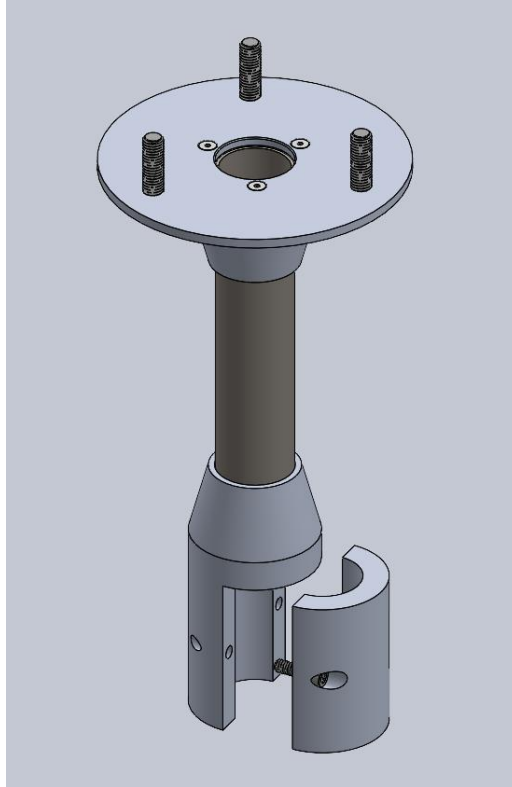
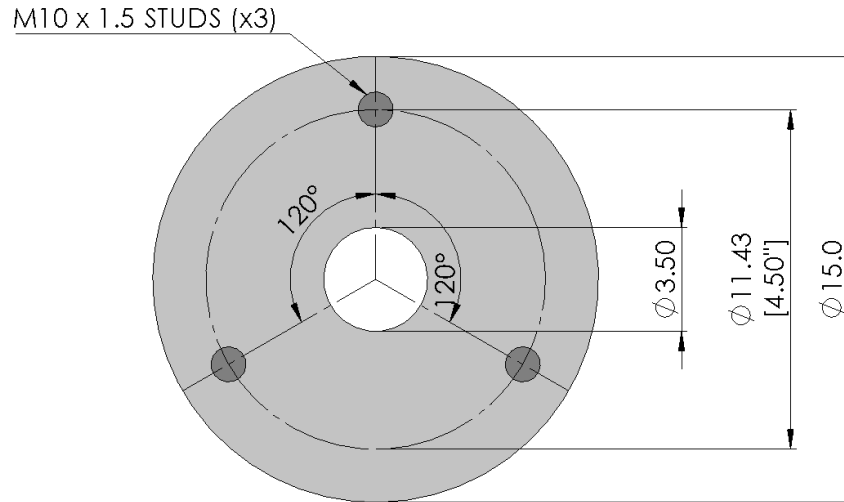

Figure 7. Organizer-provided transition piece (stub) between student tubing and turbine
Figure 10. Base flange dimensions for turbine attachment to tunnel (dimensions in centimeters)
- The competition organizers will provide a “stub” or “transition piece” that will connect the top of the foundation structure to the place in the wind tunnel where the mounting plate has been located in previous years. Figure 6a, Figure 7, and Figure 10 and show depictions of the stub and interface method for the student turbines. The final weight of
- Three tunnels will be available in this year's competition: two small tunnels and the larger competition tunnel. The smaller tunnels will have the existing base plates as in previous years (see Figure 10). The student-provided foundation structure will not be used in the smaller practice tunnels. It is for this reason that a consistent mounting pattern is used between all three tunnels for the turbine baseplate.
- The turbine base plate must be constructed of material no thicker than 16.1 millimeters. It should be designed and constructed with adequate tolerances to smoothly fit over three studs, where it will be secured to the tunnel base flange/mounting stub with wingnuts. Figure 10 shows the bolt pattern and sizing of this flange and the dimension for the hole in this base flange to allow cables and connectors to pass through.